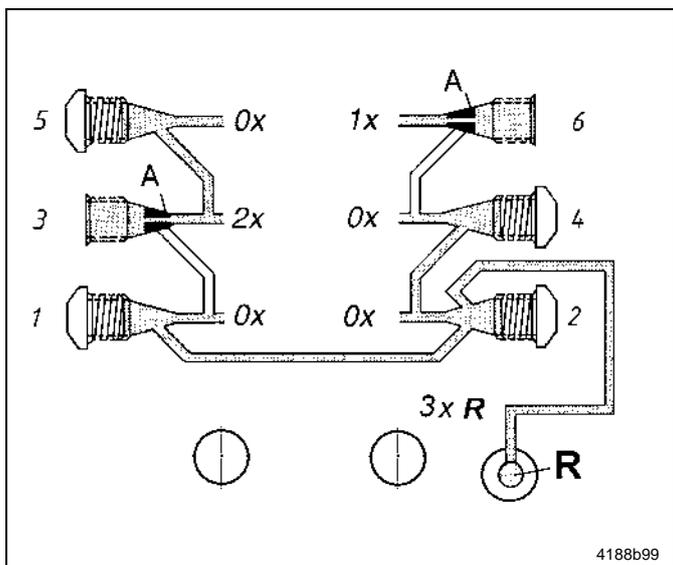

Fig. 4 Internal feedback of supplied lubricant, only on back-mounted SSV metering devices
- Fig. 4 (page 8) outlets 1, 2, 4 and 5
- Fig. 4 (page 8) outlets 3 and 6
- When feeding back, always start with plugging the outlets **with the smallest outlet numbers**, e.g. 2, 4, 6... or 1, 3, 5... **plus outlet 2**. In fig. 4 the outputs of outlets 1, 2 and 4 (3xR) are fed back to the reservoir.